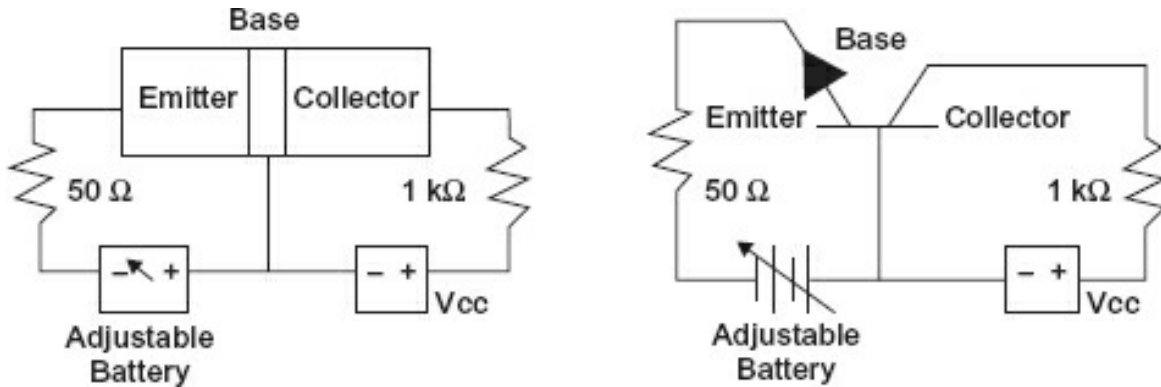
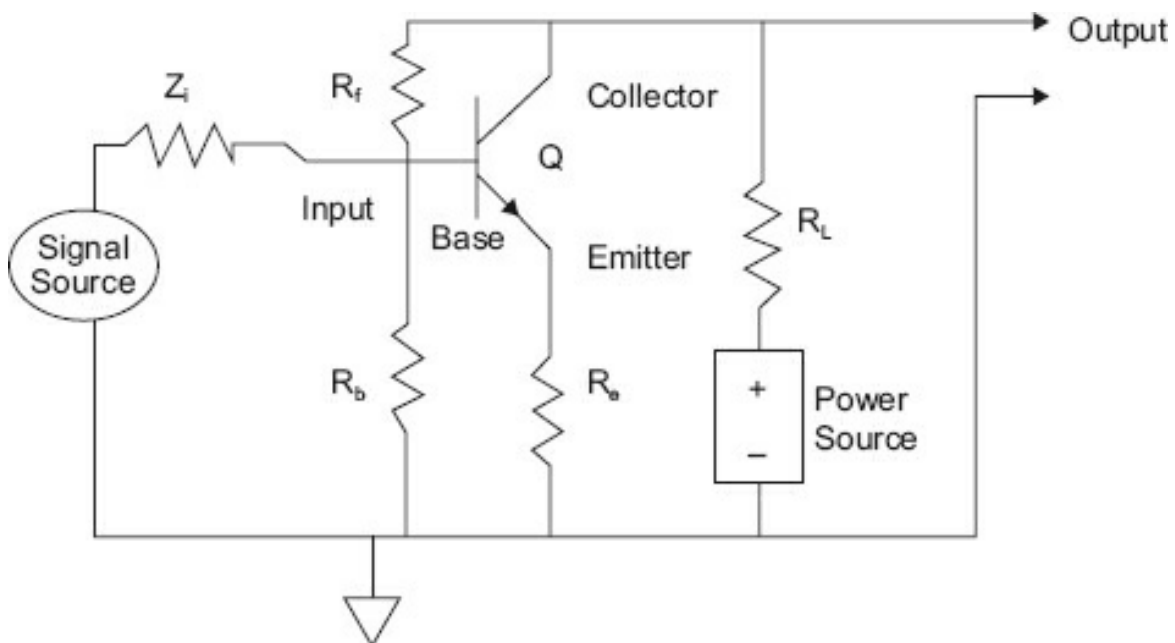
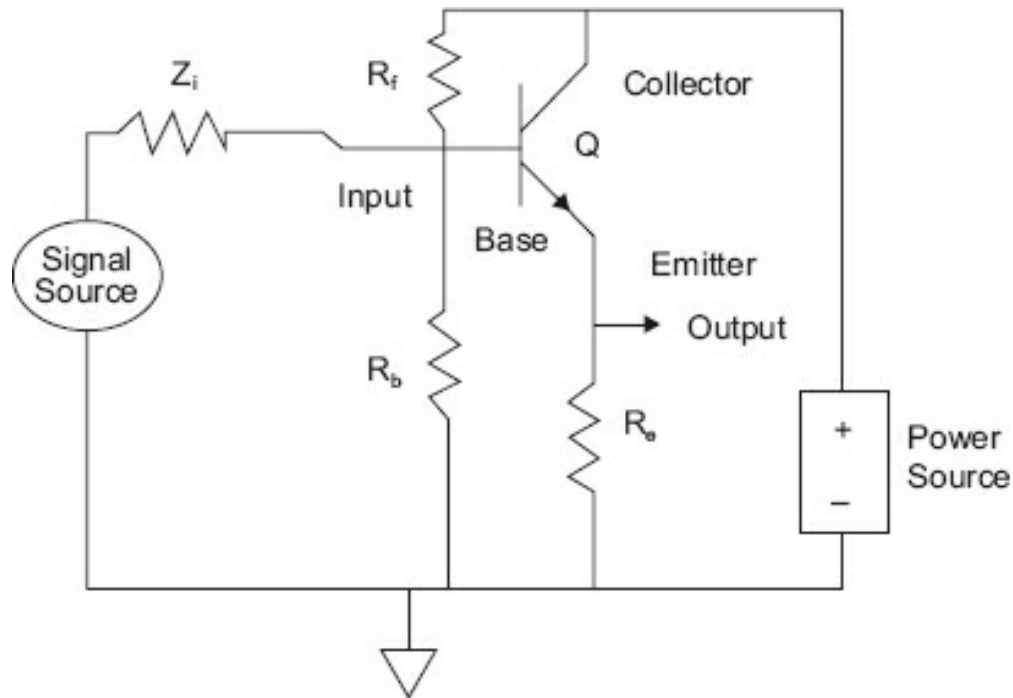

Figure 6-5. Forward-biased NPN transistor.
Figure 6-7. NPN common emitter configuration.
Figure 6-8. Common collector (emitter follower).
applied, or if it is forward biased and the applied voltage does not exceed the ionic charge (approximately 0.7 V for silicon), nothing in the circuits will change and no current will flow. When the emitter-base junction is forward biased, current will flow in the emitter base circuit. However, the base is physically very small and has few carriers (compared to the emitter and collector). Observe Figure 6-5.
The transistor alone will not do anything; it must be connected in a circuit to perform a function. There are three basic configurations of amplifiers. They are classified by which of three leads is common to both the input and the output signals. The most common configuration is the common emitter (CE) illustrated in Figure 6-7.
Other configurations of amplifiers are the common base (the configuration shown in Figure 6-5 and discussed in Section 6A), common emitter (illustrated in Figure 6-7), and common collector. A common collector (illustrated in Figure 6-8) has the collector common to the input and output signals. (The battery is considered to be a short as far as the signal currents are concerned.)